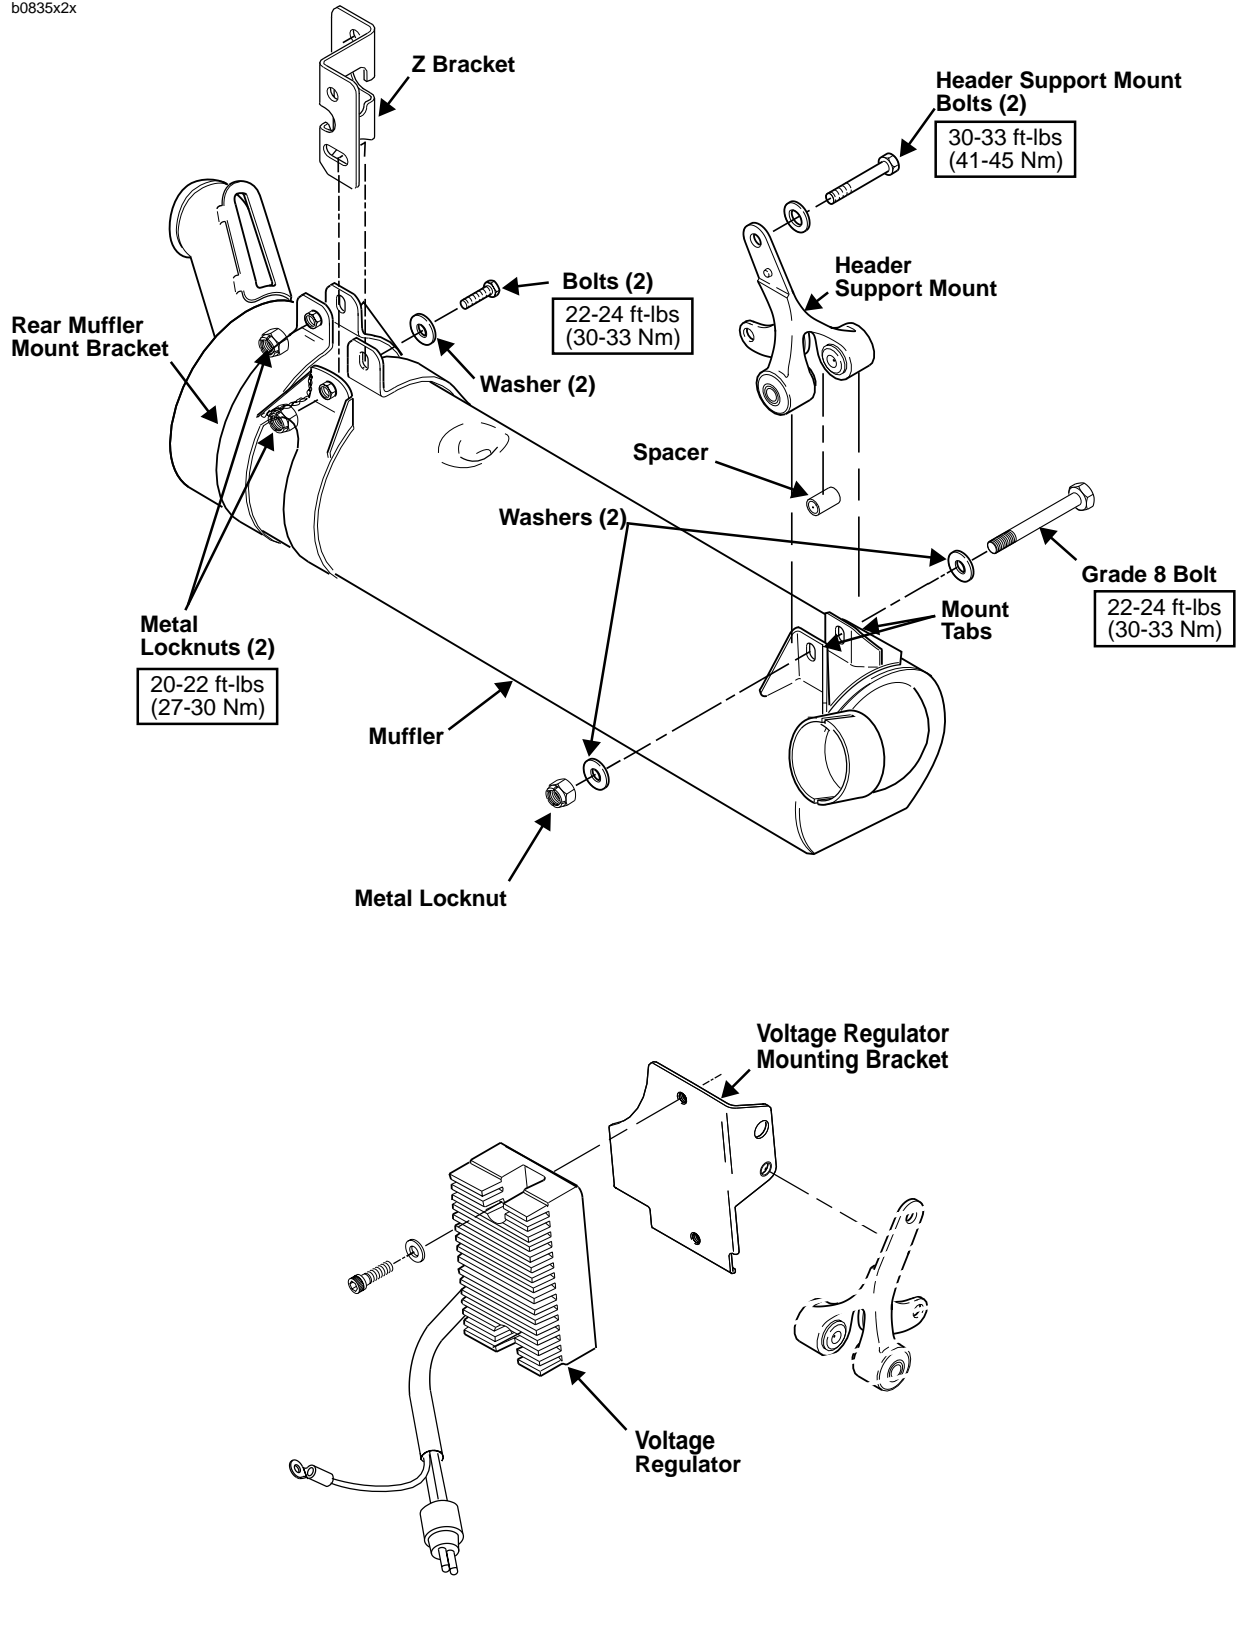

Figure 2-91. Exhaust System
2. See Figure 2-91. Loosen the four exhaust header nuts (20) using SNAP-ON SWIVEL SOCKET (Part No. PFSX916).
2. See Figure 2-91. If removed, install Z-bracket.